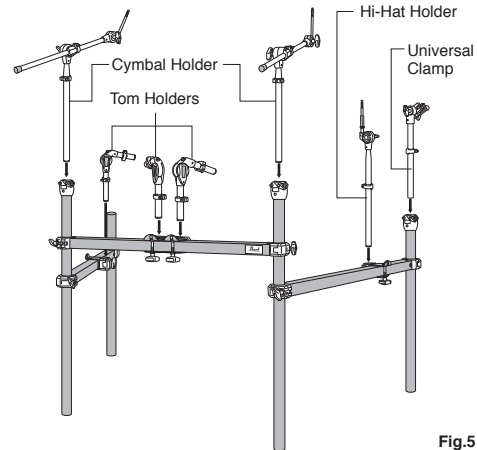

Fig.5
6. Attach the Tom Holders, Cymbal Holders, Hi-Hat Holder and the Universal Clamp to the Pipe Clamps and Pipe Bracket as shown below (Fig. 5).